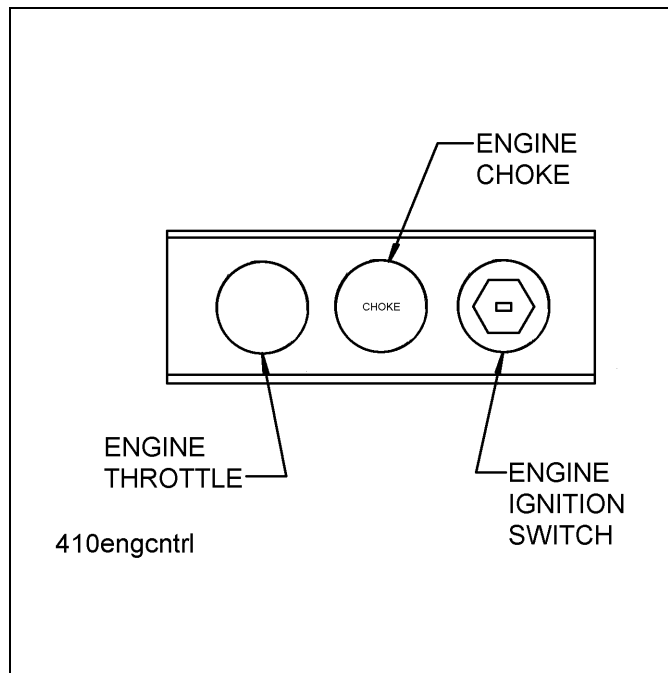

Figure 3-13: Engine Control Panel
2. The **ENGINE IGNITION SWITCH** is located on the engine control panel on the driver's side of the semitrailer. Use the key to start and stop the Hydraulic Power Supply Engine (**See Figure 3-13.**) This switch has three positions:
3. The **HYDRAULIC POWER SUPPLY ENGINE CHOKE** is located to the left of the Engine Ignition Switch on the driver's side of the semitrailer (**See Figure 3-13.**) The purpose of the Choke is to aid the starting procedure.
4. The **HYDRAULIC POWER SUPPLY ENGINE THROTTLE** is located to the below the choke on the driver's side of the semitrailer. The Engine Throttle controls the speed at which the engine operates (**See Figure 3-13.**) It is a variable position control: